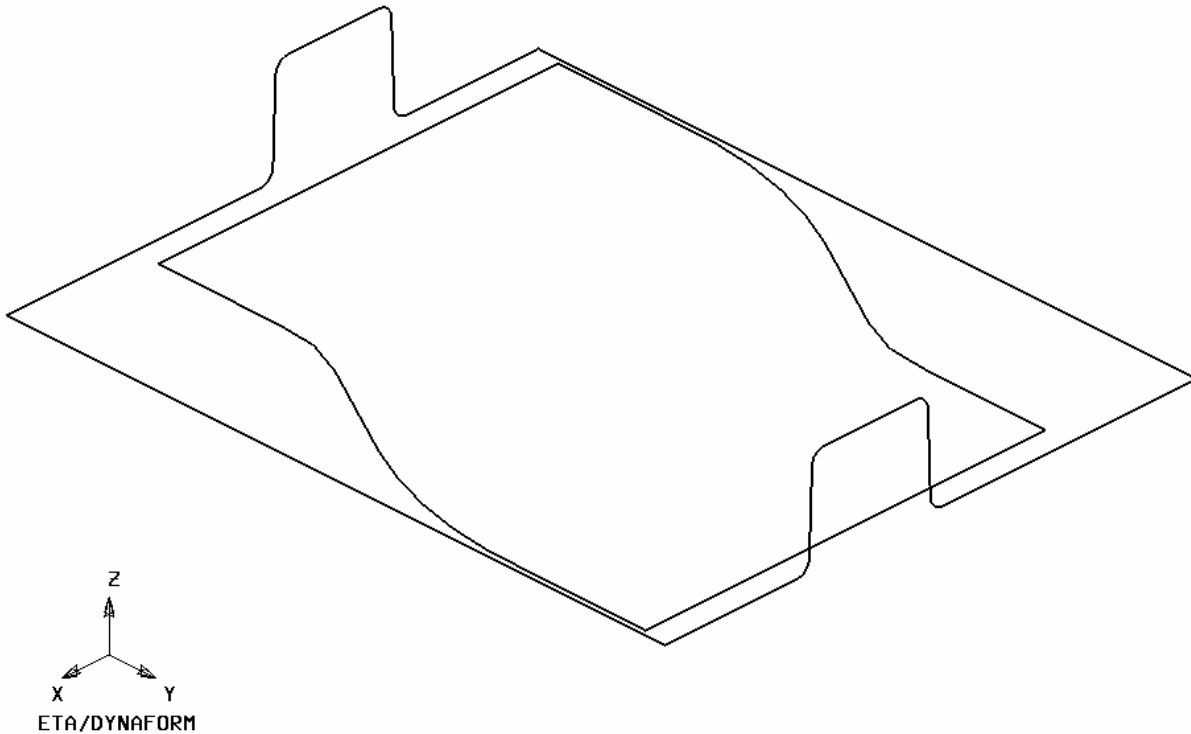

Figure 36: Model boundary after hidden nodes and elements
- Turn off all of the elements and nodes from the **Display Options** dialog (**Note:** the boundary lines are still displayed). This allows you to inspect any small gaps that might be difficult to locate when the mesh is displayed. The results are shown in Figure 36.